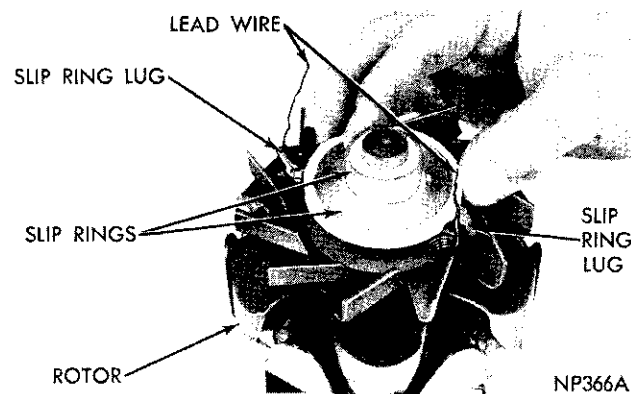

Fig. 24—Aligning Slip Ring with Field Lead Wires
- (h) Position new slip ring carefully on rotor shaft to insure that slip ring lugs will be in proper position for connecting field coil wires (Fig. 24).